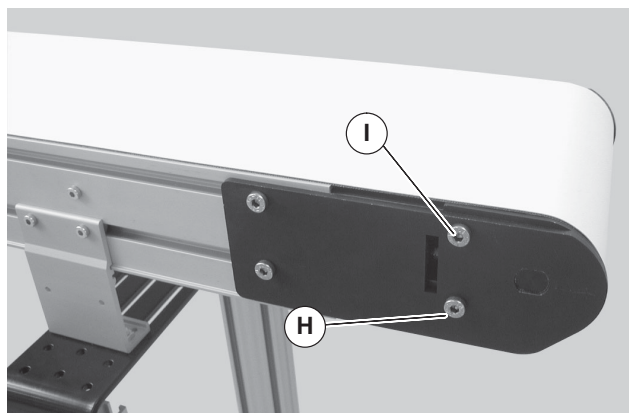
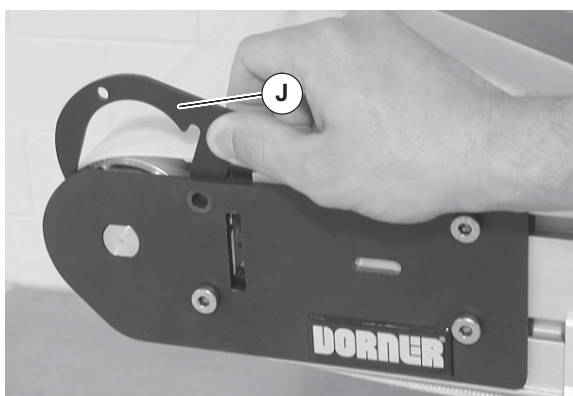

Figure 4
Figure 5
- Loosen screw (Figure 4, item H) on both sides of conveyor.
- Remove screw (Figure 4, item I) on both sides of conveyor. Remove existing spacer plates (Figure 5, item J) on both sides of conveyor.